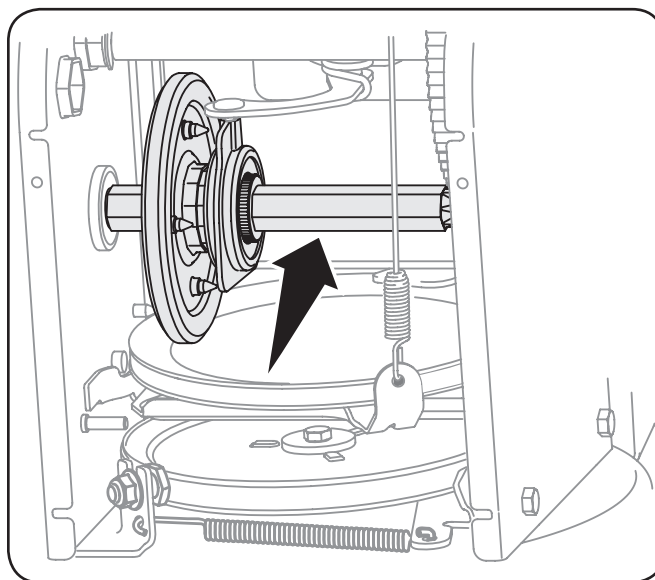

Figure 6-2
4. Apply a light coating of Bostik Regular Grade Never-Seez® to the hex shaft. See Figure 6-2.